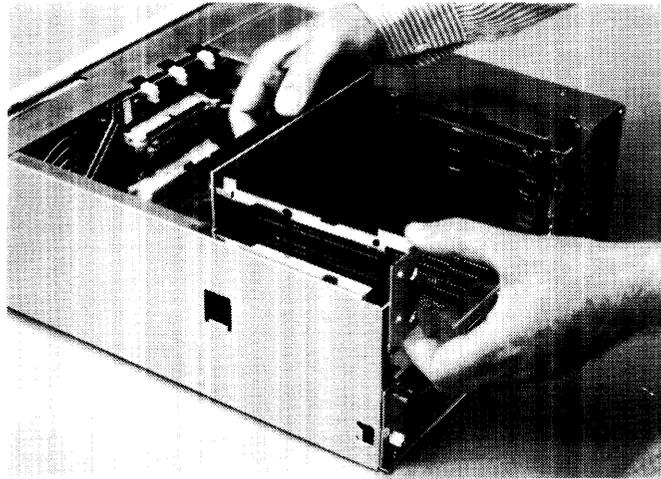

Figure 2-12. DIO Card Cage Bracket
2. Remove the screw holding the right side of the DIO card cage to the card cage bracket. Refer to Figure 2-12.